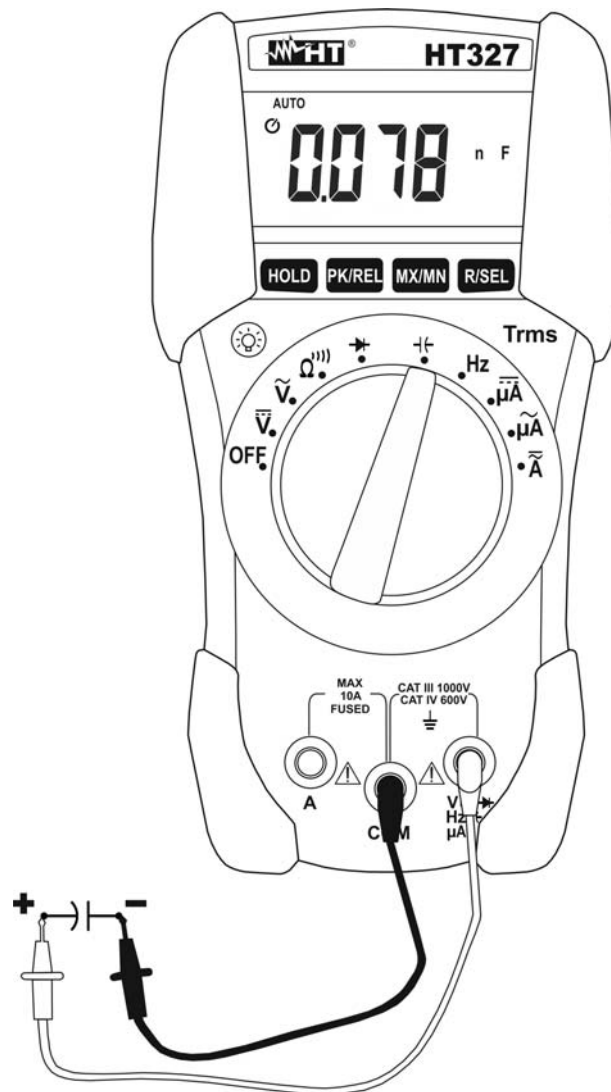

Fig. 8: Using the instrument for Capacitance measurement
3. Connect the red and black test clamps to the capacitor terminals respecting if necessary the proper polarities (see Fig. 8). The capacitance value is shown on display